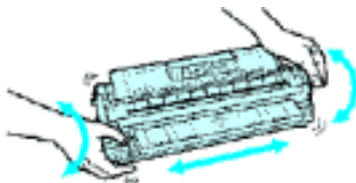

Figure 20. Rotating The Cartridge
2. Remove the toner cartridge from its packaging. Rotate the cartridge as shown in Figure 20 and gently shake it from side to side to distribute the toner evenly inside the cartridge.